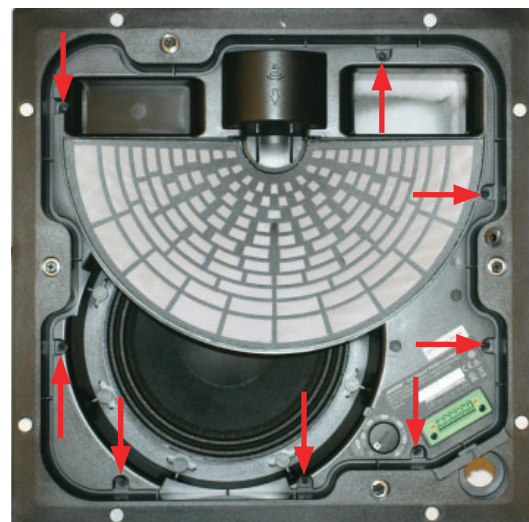

Figure 8
2.2 Remove the eight screws indicated by the red arrows as shown in figure 8.